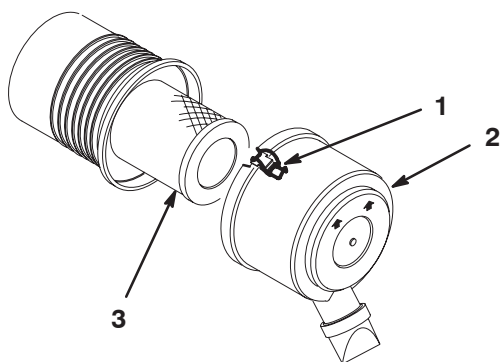

Figure 16
1. Release the latches securing the air cleaner cover to the air cleaner body (Fig. 16). Separate the cover from the body. Clean the inside of the air cleaner cover.